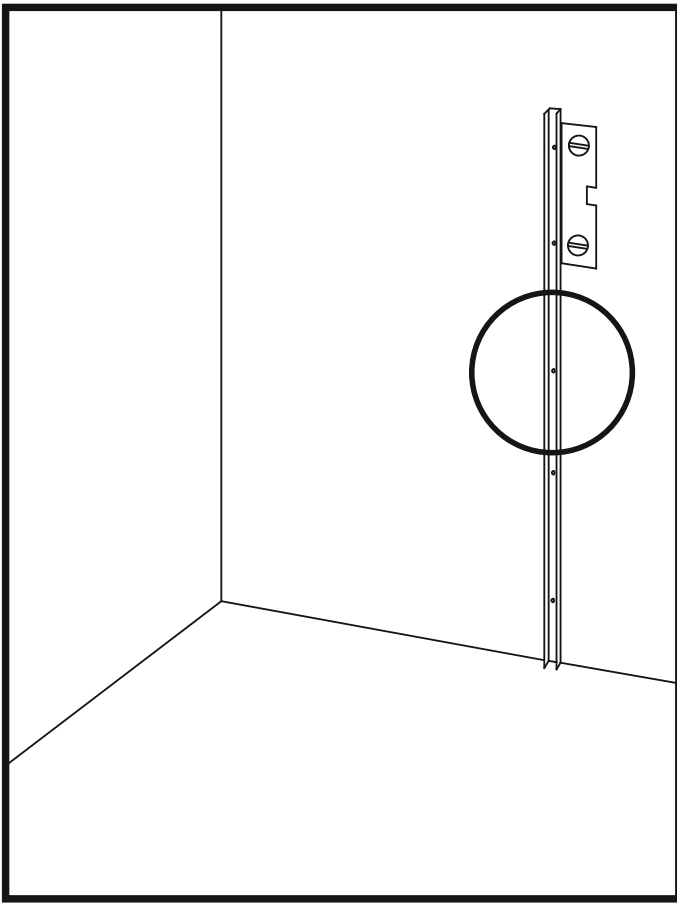

Figure 3
4. Place the longer U-profile vertically on the wall using a level so that the edge of the U-profile is flush with the marked dot and the end of the U-profile is against the floor. Mark the holes in the profiles (the locations of the dowel holes) on the wall and remove the profile. If marks remain on the edges of the ceramic tiles, try turning the profile the other way and making the marks again. (Figure 3)